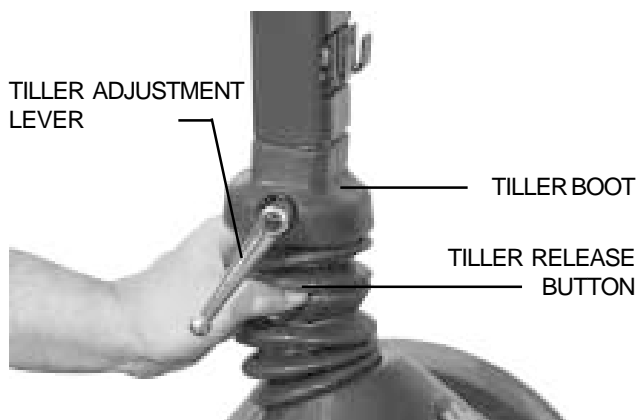

Figure 11. Adjusting The Tiller Angle
1. Turn the tiller adjustment lever counterclockwise until it is loose. If the tiller adjustment lever comes in contact with the tiller basket, pull it outward, turn it clockwise, and release it. Continue to loosen until the tiller is able to move. See figures 11 and 11A.